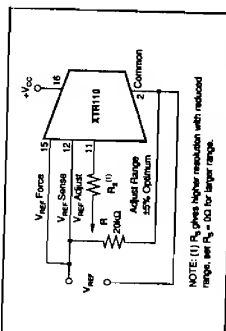

FIGURE 3. Optional Adjustment of Reference Voltage.
* Specifications apply to AG/BG grades. ** Specifications apply to the range of R_L shown in Typical Performance Curves. NOTES: (1) Including internal inductance. (2) Span is the change in output current resulting from a full scale change in input signal. (3) Within compliance range limited by $(V_{CC} - 2V)$. V_{CC} required for linear operation of the FET. (4) For V_{out} adjustment circuit see Figure 3. (5) Unit may be damaged. See section, "Input Voltage Protection".
should be connected to this point. The circuit in Figure 3 shows adjustment of the voltage reference.